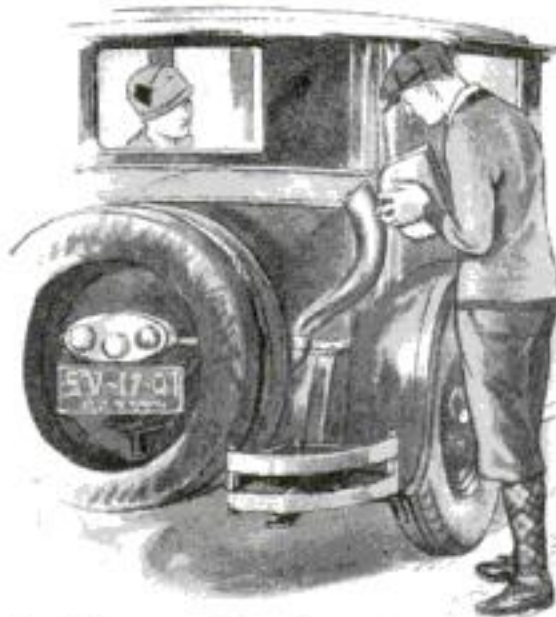

Fig. 1. New way to transfer gasoline from emergency to main tank
**W**HEN traveling in sections where gasoline stations are miles apart, it is wise to carry an emergency can of gasoline. Pouring from many styles of these cans is, however, not easy because of the location of the filler cap on the main tank. A simple solution of the problem is to use a section cut from an old inner tube, Fig. 1. Near one end of it cut a slit just large enough so that the nozzle can be forced into the opening. Tuck the other end of the inner tube into the filler opening, and the gasoline can be transferred from the emergency tank to the main tank without spilling it all over the rear end of the car.